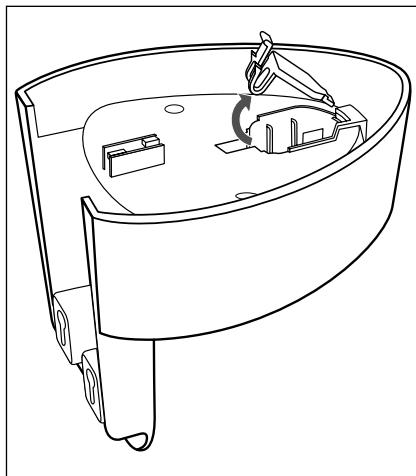

Fig. 1
- Open up the small cover (fig. 1).